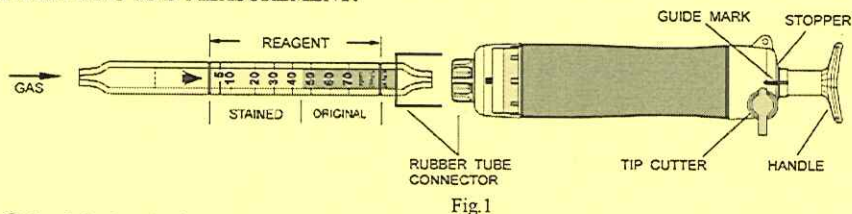

Fig.1
- ① Break both ends of the detector tube.
- ② Insert the detector tube into the aspirating pump securely as shown in Fig.1. (Arrow mark shall point to the pump.)
- ③ Align the guide marks on the shaft and stopper of the aspirating pump.
- ④ Pull the pump handle at a full stroke until it locks and wait for 2 minutes or until the completion of sampling is confirmed with the flow indicator of the pump. (See descriptions about the flow indicator in the instruction manual of the pump.)
- ⑤ Push back the handle without removing the detector tube from the rubber tube connector so that air in the pump will be discharged perfectly. Then repeat the steps ③~④ once more.
- ⑥ On completion of sampling, read the scale at the maximum point of the stained layer.
① Temperature: Correct the tube reading by following temperature correction table.